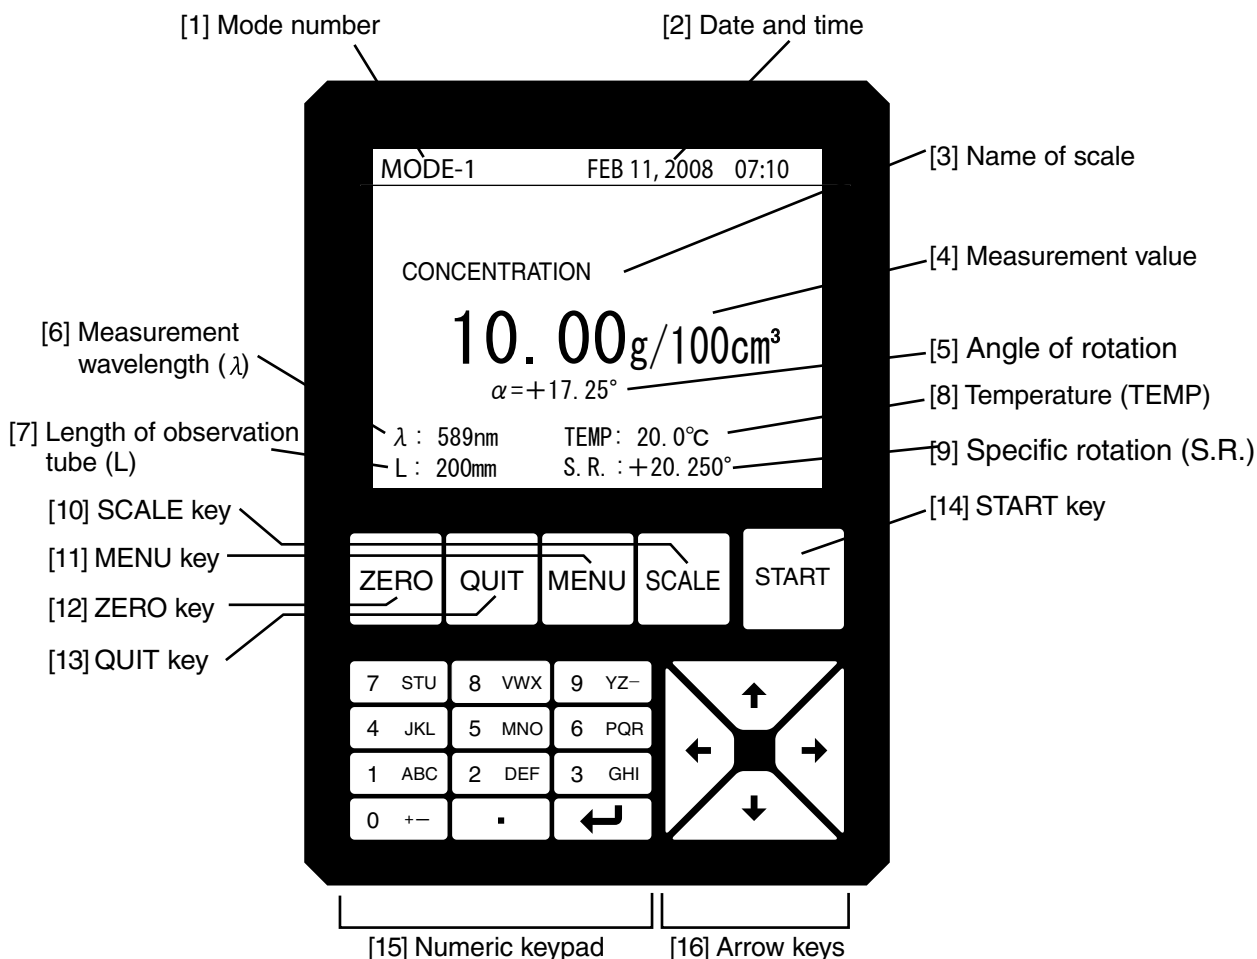

Fig.3-7
(3)-4 Display of a Measurement Value for the Concentration (Fig.3-7)